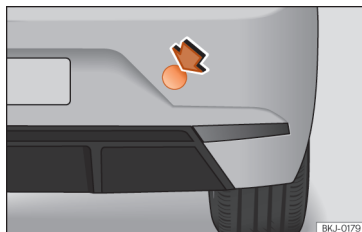

Fig. 159 Rear bumper on right: remove the lid.
The housing of the screw towing eye is on the right side of the rear bumper behind a lid >>> **Fig. 159**.
- Press the top right hand side of the cover >>> **Fig. 159** to unclip it.